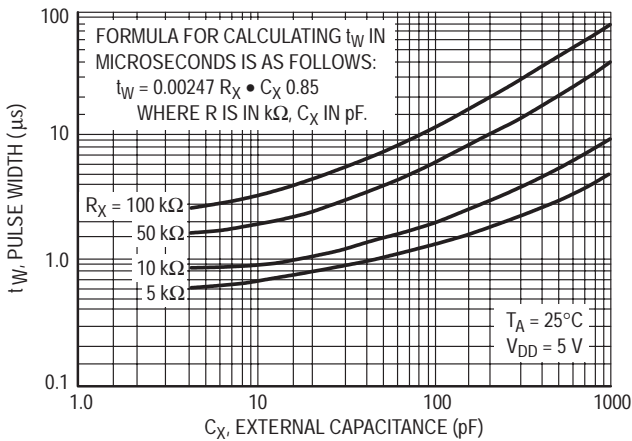

Figure 3. Typical  $C_X$  versus Pulse Width @  $V_{DD} = 5.0 \text{ V}$
**MONO-IN (Pin 15)** — Used as the timing pin for the on-chip monostable multivibrator. If the Mono-In input is connected to  $V_{SS}$ , the monostable circuit is disabled, and Decode Out is directly connected to the selected Q output. The monostable circuit is enabled if a resistor is connected between Mono-In and  $V_{DD}$ . This resistor and the device's internal capacitance will determine the minimum output pulse widths. With the addition of an external capacitor to  $V_{SS}$ , the pulse width range may be extended. For reliable operation the resistor value should be limited to the range of 5 k $\Omega$  to 100 k $\Omega$  and the capacitor value should be limited to a maximum of 1000 pf. (See figures 3, 4, 5, and 10).